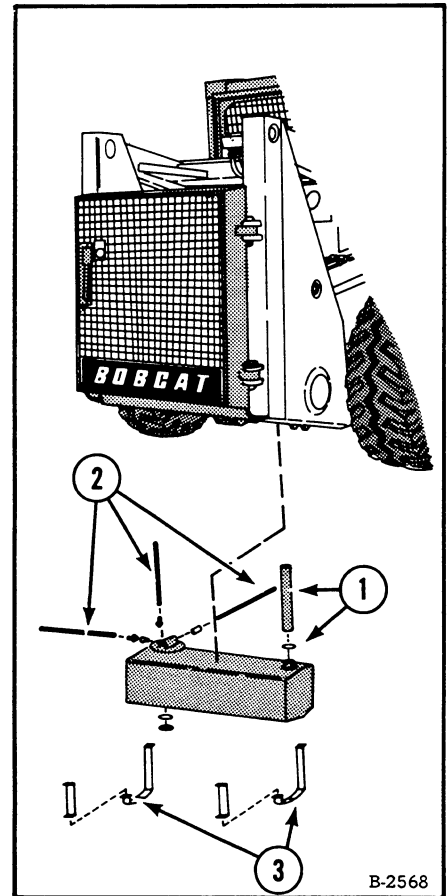

Fig. 1-47 Hydraulic Reservoir Removal
- (1) Slide skid plate open (See page 1-6).
- (2) Remove fill hose and clamp (Fig. 1-47, Item 1).
- (3) Remove 3 hoses from top of 100 mesh screen (Fig. 1-47, Item 2).
- (4) Remove plug to let fluid out of reservoir.
- (5) Remove fasteners (Fig. 1-47, Item 3) and remove reservoir. The reservoir weight is 55 lbs. (25 kg).